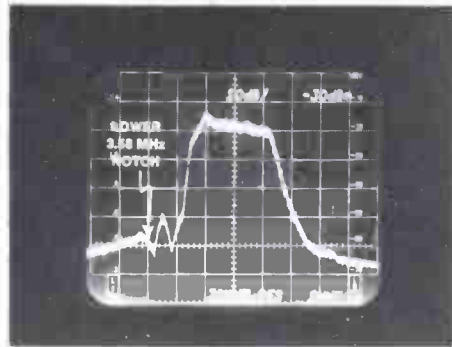

Fig. 5 Sideband response using noise.
5. The lower sideband color notch location can be identified by alternately switching in a multiburst signal to identify the position. Then using the full field noise source, the notch should be measured or adjusted to be 42 dB or more below the average working part of the vestigial sideband filter as indicated in Fig. 5.